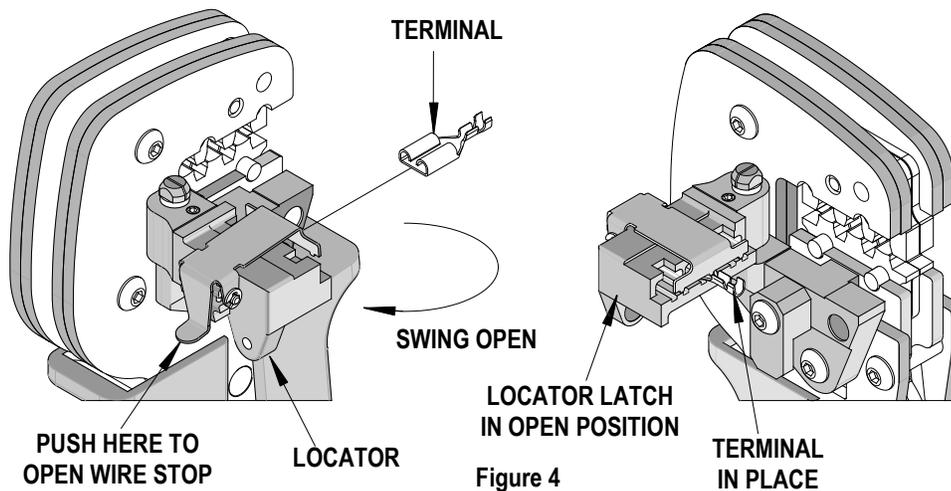
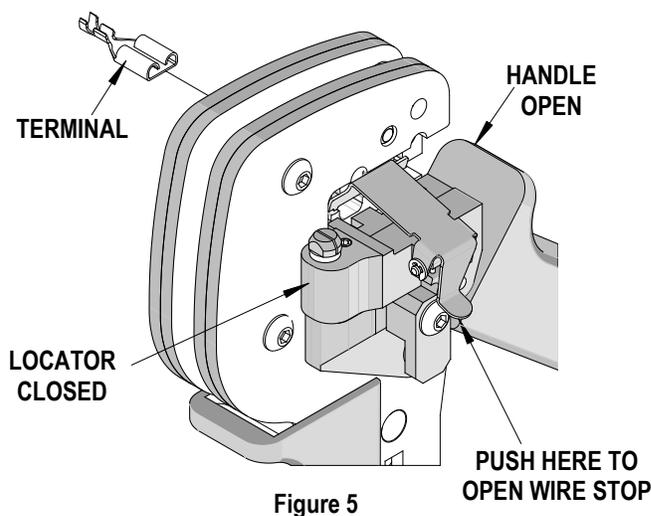

Figure 4
Figure 5
3. Swing the terminal locator away from the crimp tool shown in Figure 4. Some terminals with large insulation grips may interfere with the crimp tooling when swinging the locator into position. The terminal must then be loaded into the locator in the closed/crimp position. See Figure 5.